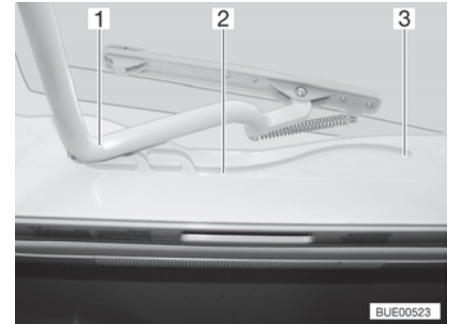

Fig. 31 Guide (Heki skylight)
- Pull the bar (Fig. 31,1) in the guides (Fig. 31,2) to the rearmost position (Fig. 31,3).
- Use both hands to push the bar (Fig. 31,1) slightly upwards.
- Pull the bar in the guides (Fig. 31,2) to the desired position.